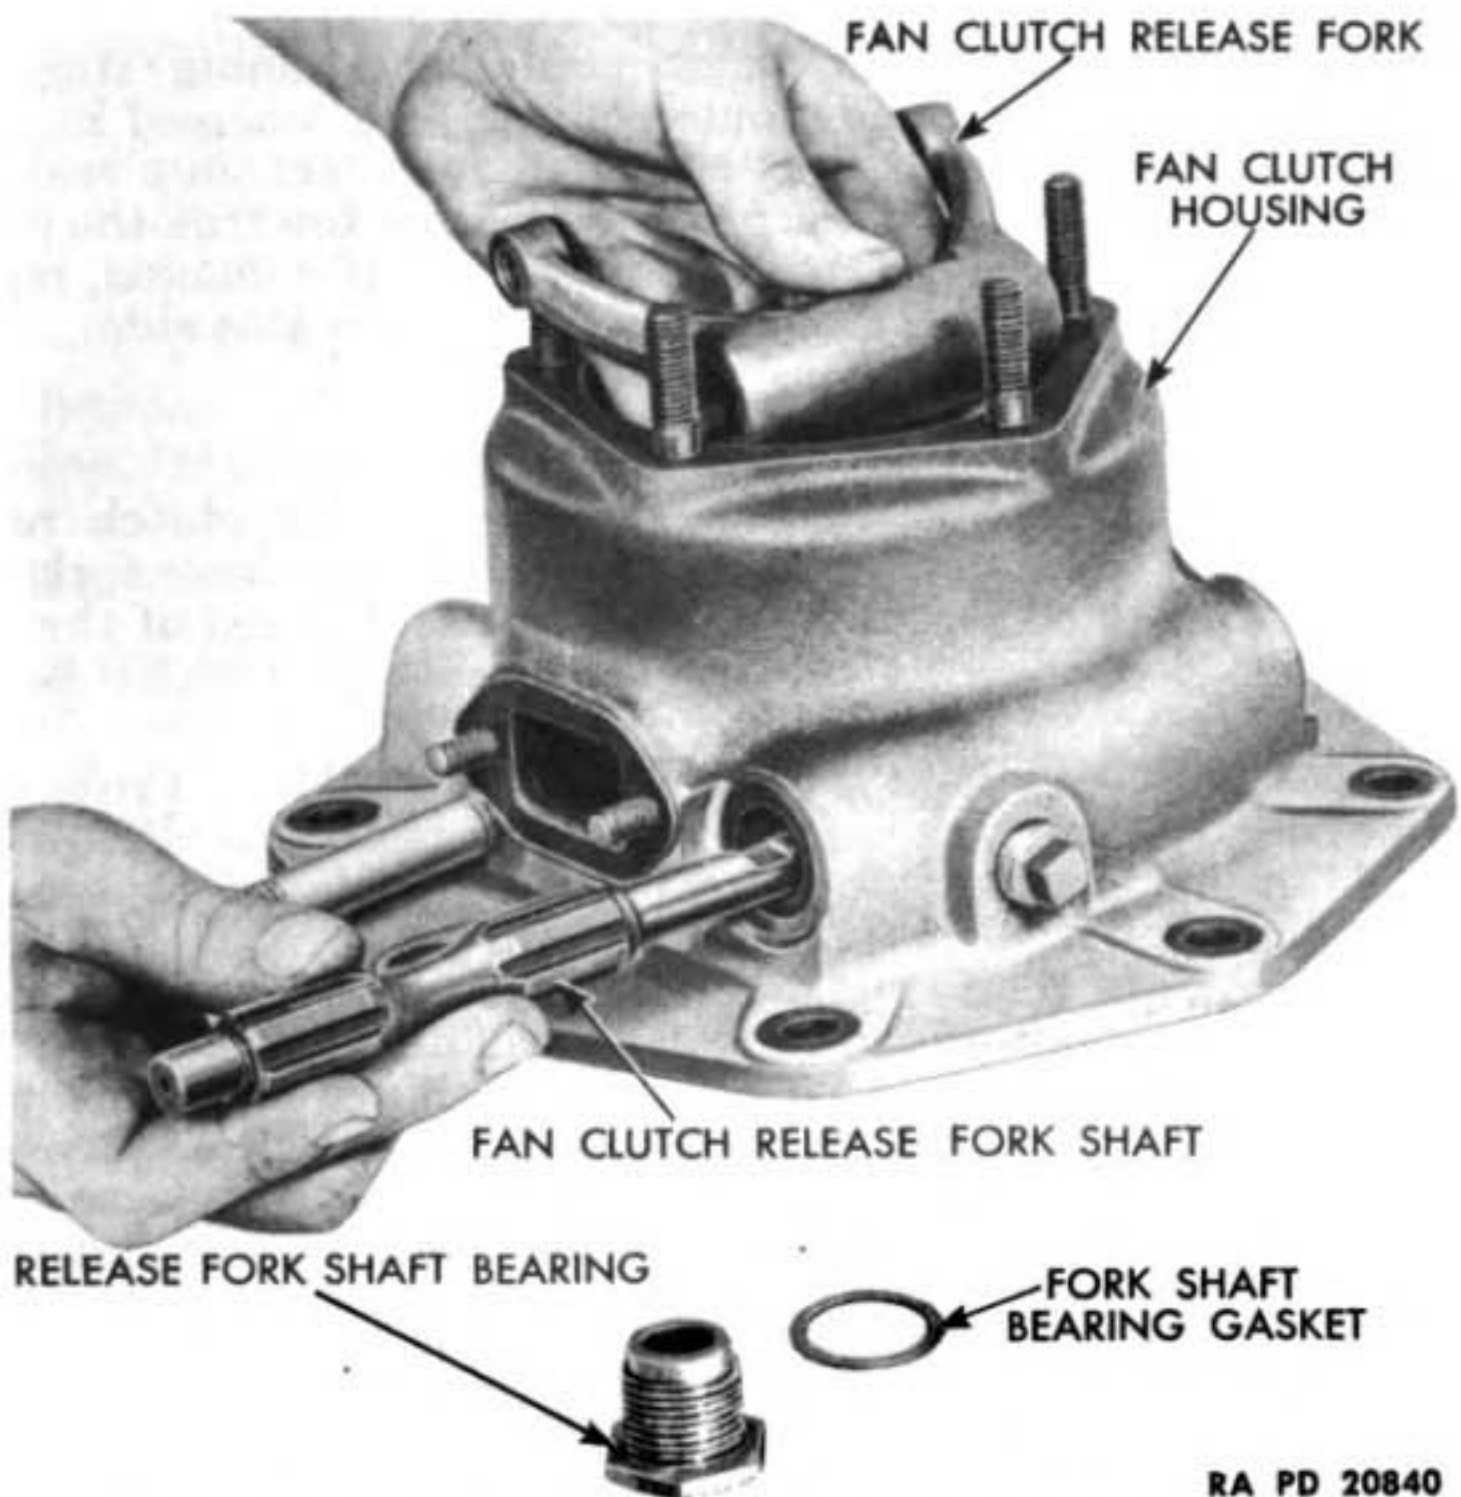

Figure 110 — Removing Fan Clutch Release Fork and Shaft
d. **Remove Fan Clutch Release Fork.** Unscrew release fork shaft bearing with gasket from fan clutch housing, and remove fan clutch release fork shaft and release fork from fan and pump shaft (fig. 110).
a. Install Clutch Release Fork. Place the fan clutch release fork inside the fan clutch housing, and insert the release fork shaft into the housing and fork, with the flat side on the end of the shaft toward the engine (fig. 110). Install release fork shaft bearing and new gasket.